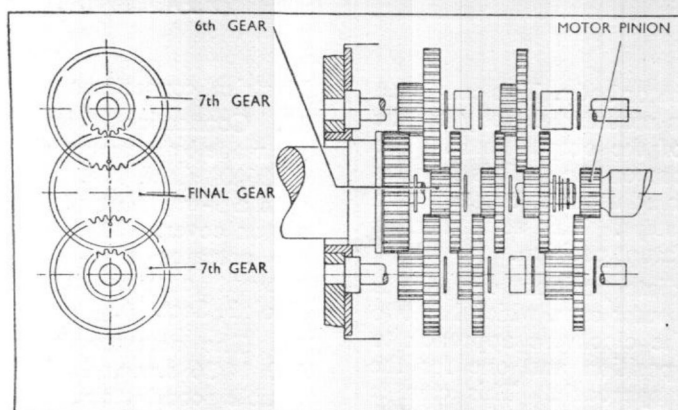

Fig. 4. Gear train
16. The gear train consists of eight 40T × 15T double spur wheels running on three shafts as shown in fig. 4. The outer gear shafts are mounted at one end in the actuator body and are located at the other end by the gearbox cover plate, which also serves to restrict axial movement of the gears to a minimum. The centre lay shaft forms an extension to the output shaft; the free running gears are retained on this shaft by a circlip.